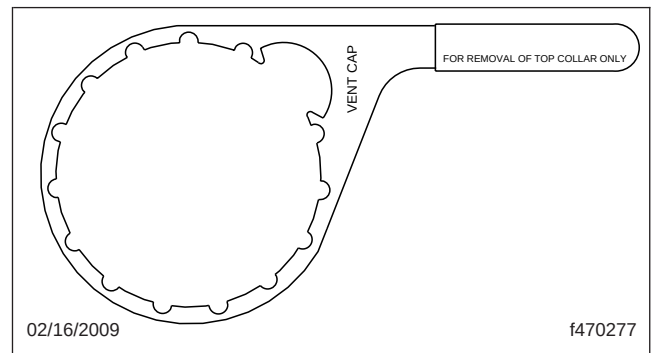

Fig. 2, DAVCO Collar Wrench
4. Using a DAVCO Collar Wrench (**Fig. 2**), remove the clear cover and collar.